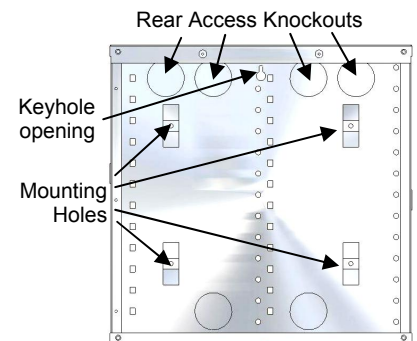

Figure 1
- If cable access is to be through the back of enclosure, remove wire access knockouts from rear of enclosure. (See **Figure 1**).
- Position enclosure in desired location and mark top of center keyhole opening located on the top center of enclosure (See **Figure 1**).
- Hang enclosure on screw and mark four (4) mounting holes and wire access holes on plywood. (See **Figure 1**). Also mark top and bottom of enclosure.